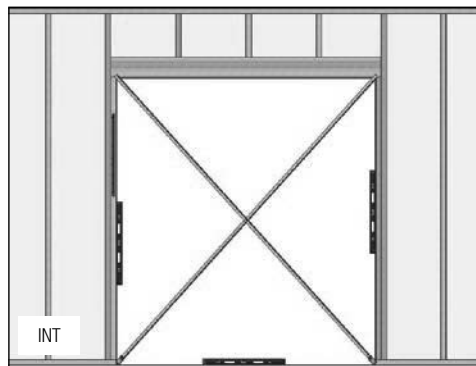

FIG. 4
- B) Verify the rough opening is plumb, level and square. (Fig. 4)
- C) Take diagonal measurements to check for square. (Fig. 4)
- D) Make sure the bottom sill area of the rough opening is flat and level. Correct rough opening if sloped toward interior, out of level, or humped. (Fig. 4)